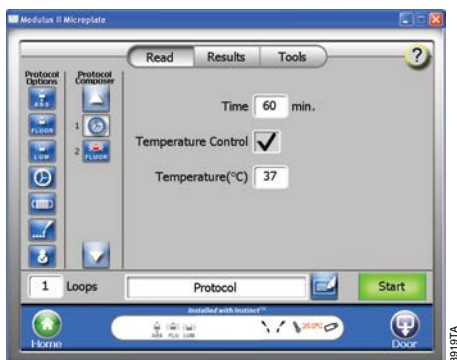

Figure 16. Setting the Incubation Parameters followed by Plate Read.
2. Select and drag the “Incubation” icon from Protocol Options to the Protocol Composer (Figure 16).